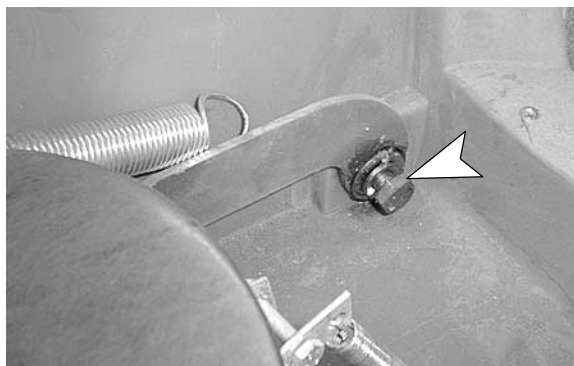

FIG. 4
6. Remove screws that fasten motor lift arm brackets to machine, 3/4" wrench required. Keep mounting hardware (Figure 4).